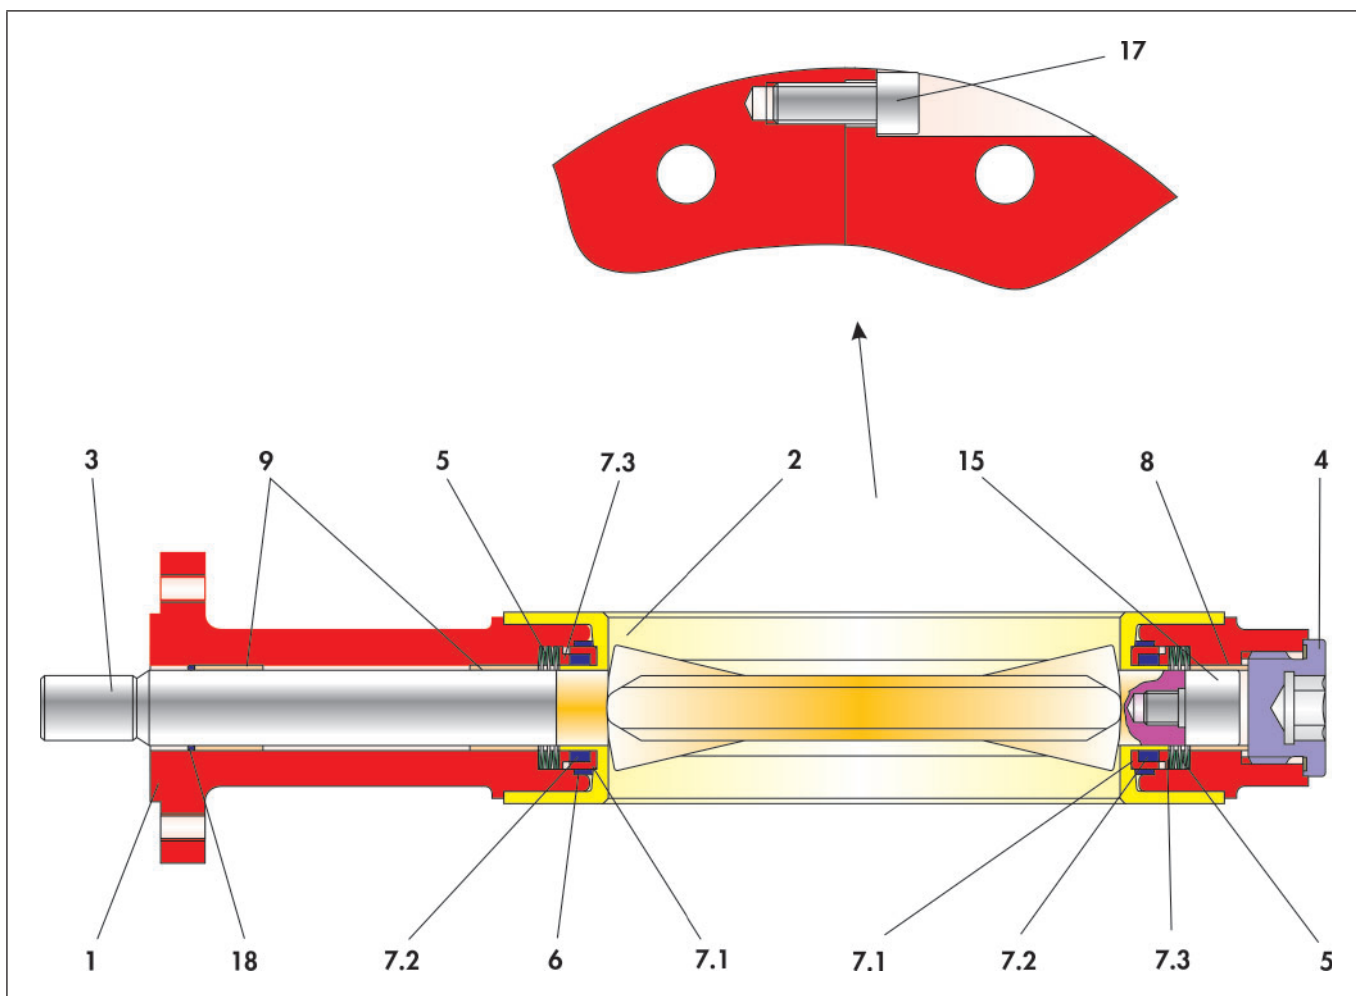

Fig. 3-3: Sectional drawing of the BR 10e butterfly valve
- ⇒ Place the disc (7.1) from both ends over the valve shaft (3) and the bearing collar of the liner (2).
- ⇒ Place an inlay (6) around the liner (2) such that the holes in the inlay fit in the bearing collar.
- ⇒ Screw the bearing screw (15) into the bearing journals of the valve disc (3).
- ⇒ Insert the bearing bush (8) into the shaft bore of the lower body half (1b).
- ⇒ Insert the disc spring set (5), comprised of 6 disc springs, into the corresponding positions of the body half (1b). Refer to Fig. 3-3 for the arrangement of the disc springs.
- ⇒ Insert the bearing bushes (9) into the shaft bore of the upper body half (1a).
- ⇒ Insert the disc spring set (5), comprised of 6 discs, into the corresponding positions of the body half (1a). Refer to Fig. 3-3 for the arrangement of the disc springs.